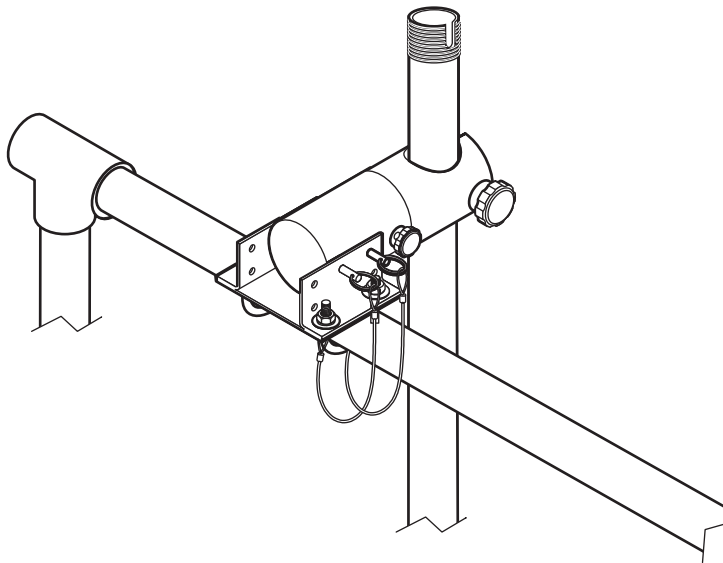

Figure 5: Installing the immersed pipe
3. Fit the immersed pipe through the immersed pipe bracket and tighten the large knurled bolt (Figure 5: on page 6).